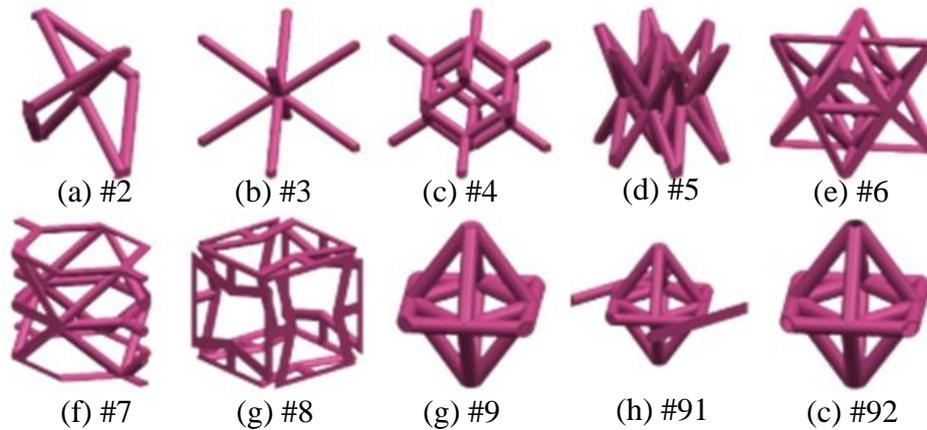

Figure 1: Lattice structures collection [FRE17] [LEH18].
This deliverable provides code to generate volume elements of the lattice structures illustrated in Figure 1. Two options exist
1. Choose geometry by choosing number (2,3,4,5,6,7,8,9,91 or 92), see Figure 1.
- `cellType = "3"`: cell type from "2", "3", "4", "5", "6", "7", "8", "9", "91" (or "92" if `typeRand = "b"`), see Figure 1.